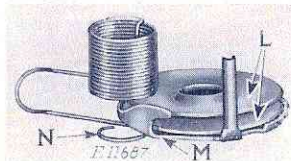

Fig. 20
Place the two tension discs (L, Fig. 20) with the flat thread-bearing sides of the discs together in position on the thread guard (M). Then pass the
eyelet (N) of the thread take-up spring under the thread guard, having the coils of the spring above the tension discs as shown in Fig. 20.